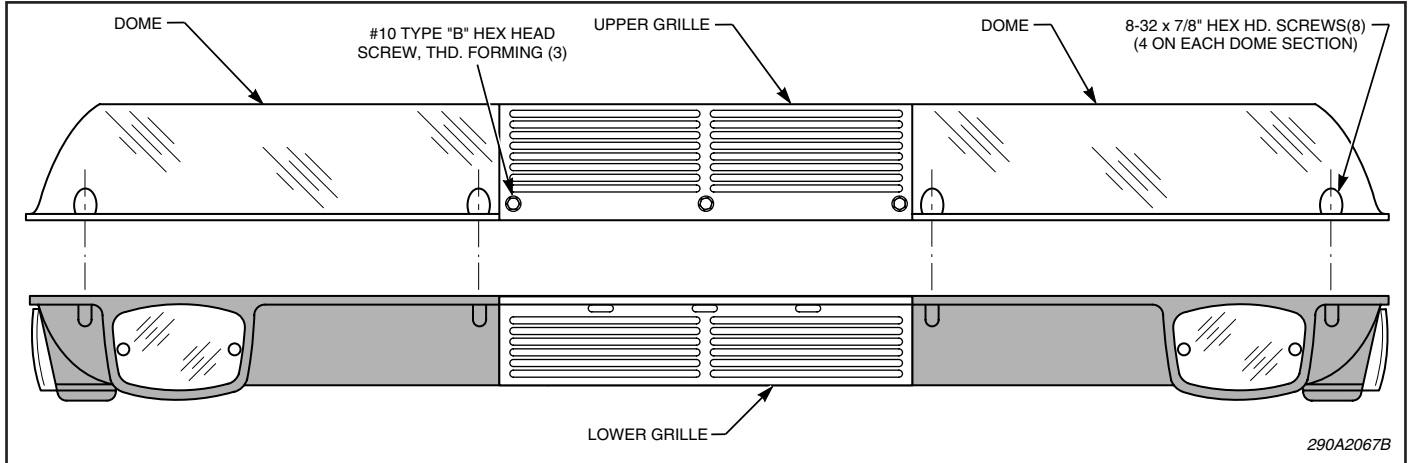
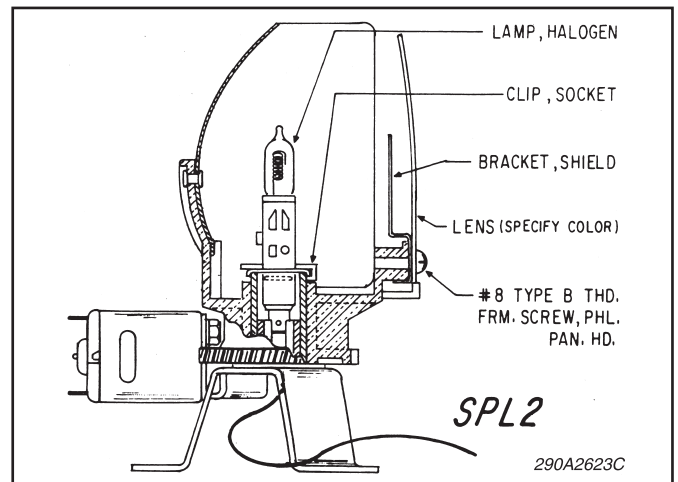

Figure 1.
Figure 2.
**A. DOME AND GRILLE REMOVAL (see figure 1).**
2. Remove three (3) type "B" hex washer head thread-forming screws which secure the upper speaker grille to the lower speaker grille. Lift upper grille away from lower grille.
**B. INSTALLATION OF LIGHT LENS (see figure 2).**